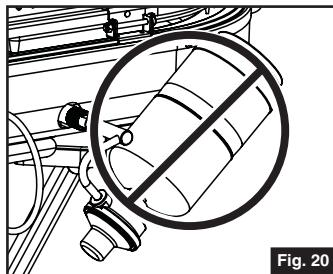

Fig. 20
- Never operate grill with propane cylinder in an inverted position. (Fig. 20)